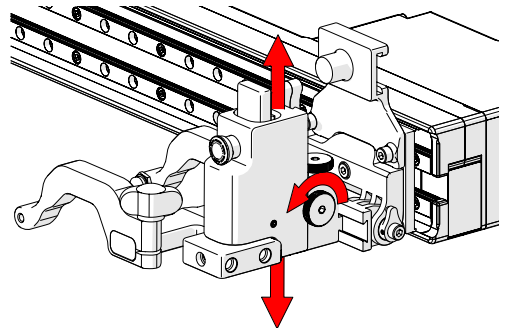

Fig. 110 - Vertical adjustment
2. The vertical adjustment knob (*Fig. 110*) allows the heavy duty vertical probe holder's height adjustment. This adjustment also controls the probe holder's spring tension.